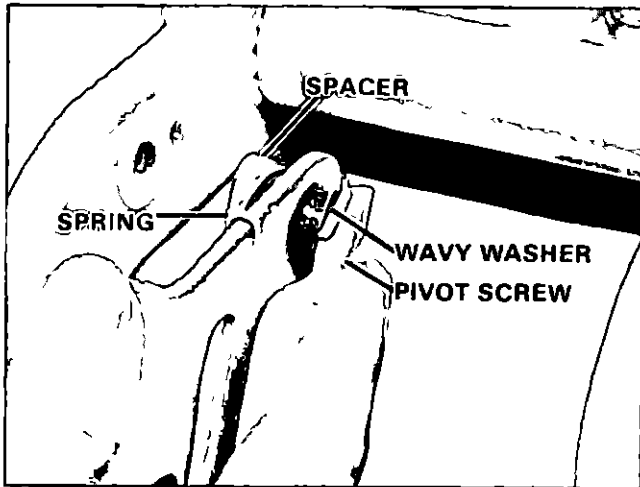

Figure 13. Installing Tilt Lock Assembly.
- 4 Install tilt lock assembly as follows Figure 13